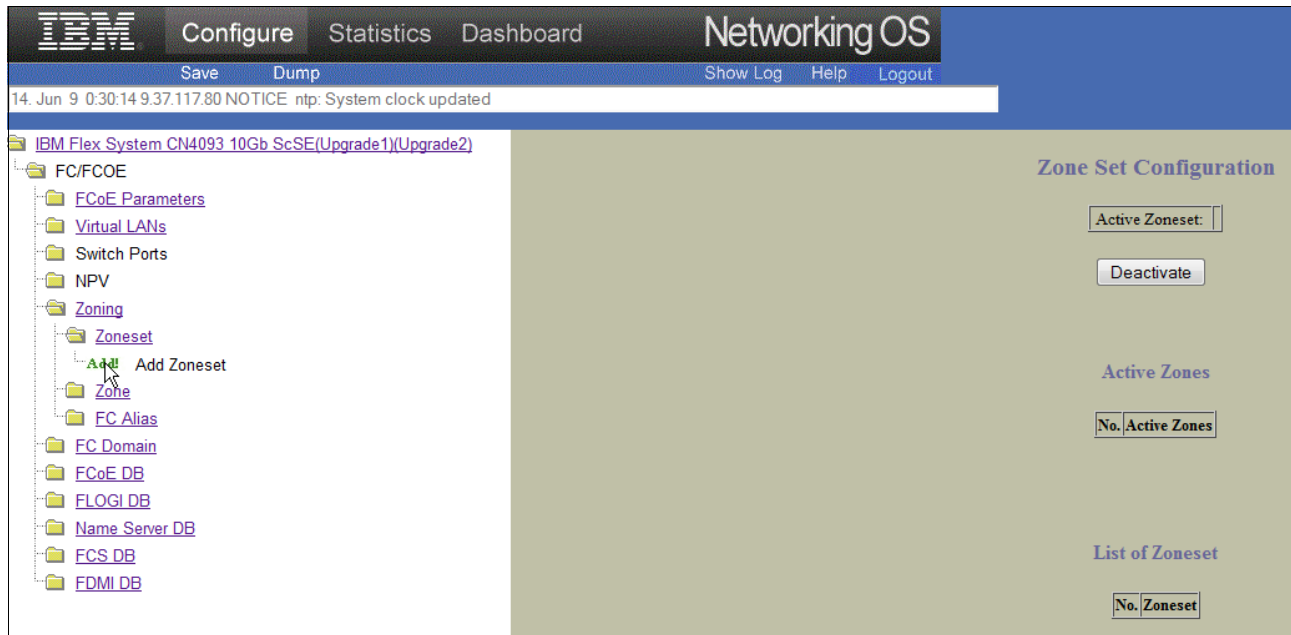

Figure 8-14 Zoneset Configuration
13. Go to the Zoneset folder, expand it, and click **Add** to create a new Zoneset as shown in Figure 8-14.